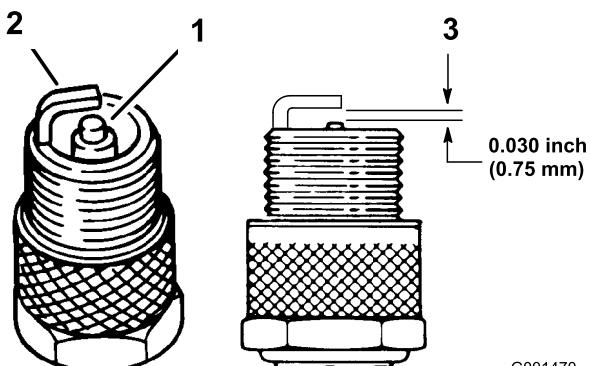

**Figure 39**
3. Disconnect the wire from the spark plug (Figure 39).